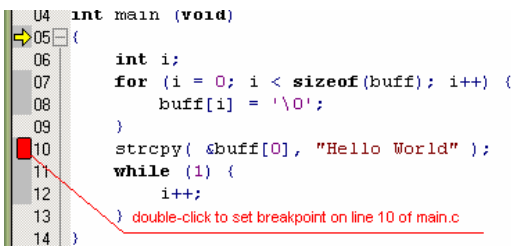

FIGURE 29 The µVision3 source window. Setting a breakpoint on line 10 of the main.c module.
- In the main.c window, set a breakpoint on line 10 of the main.c module by positioning mouse cursor in the left margin of the window where mouse cursor changes its shape from vertical bar to cursor and double-click next to line 10. A red rectangle appears, confirming that the breakpoint was set (Figure 29).